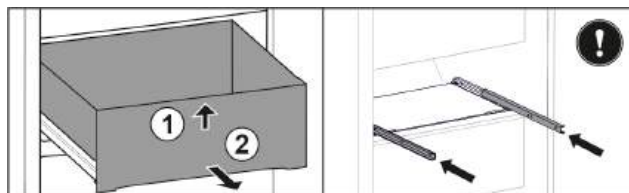

Fig. 106
- Lift up drawer at the front. Fig. 106 (1)
- Remove drawer to the front. Fig. 106 (2)